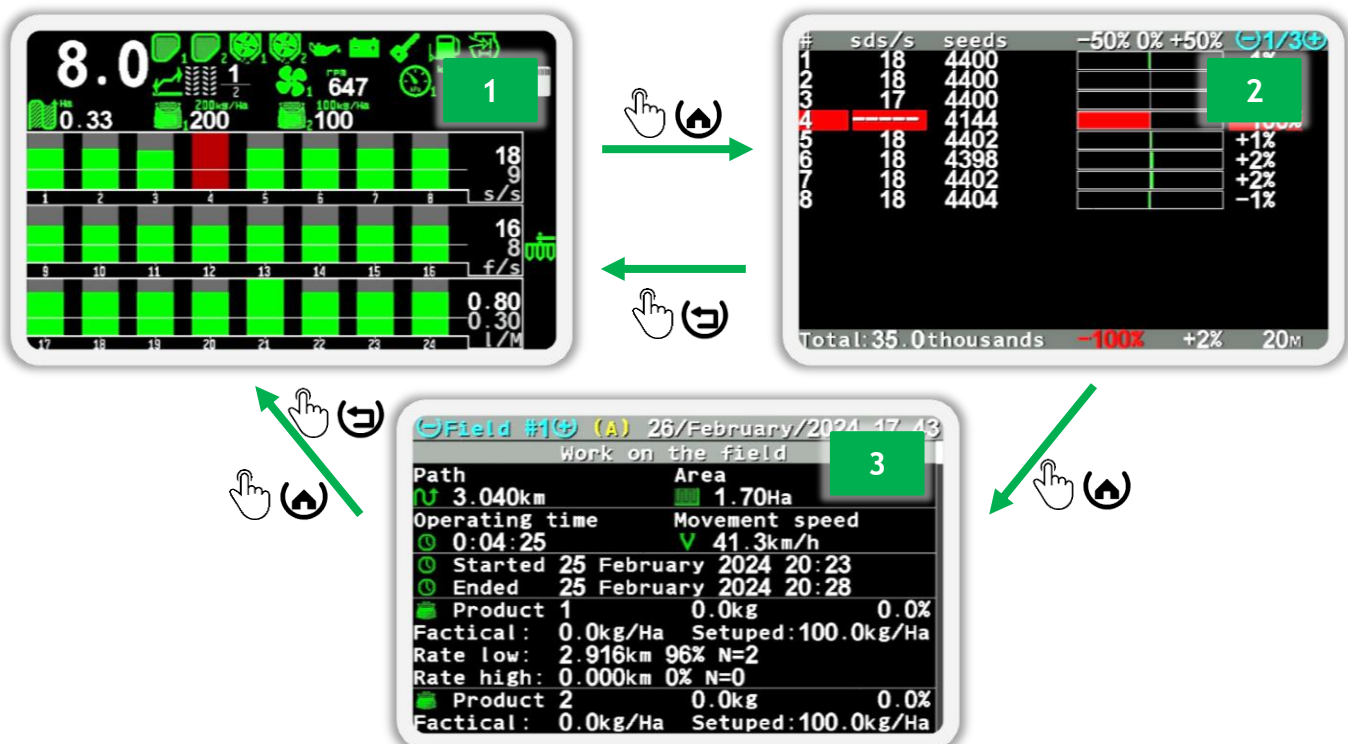

Figure 6 Scheme of switching between work screens
Immediately after turning on the power, the loading screen with the logo appears on the operator panel screen¹² (see Figure 5). It is displayed until the operator panel establishes communication with all devices connected to it. This process takes a few seconds. After it the operator panel goes to the “Main screen” (see Figure 6 p.1).
Information about the work of the system, necessary for the operator, is placed on the work screens (see Figure 6). Cyclic switching of work screens is carried out using a  “Home” button.
- main screen (see Figure 6 p.1);
- “Table” screen (see Figure 6 p.2);
- “Statistics” screen (see Figure 6 p.3).